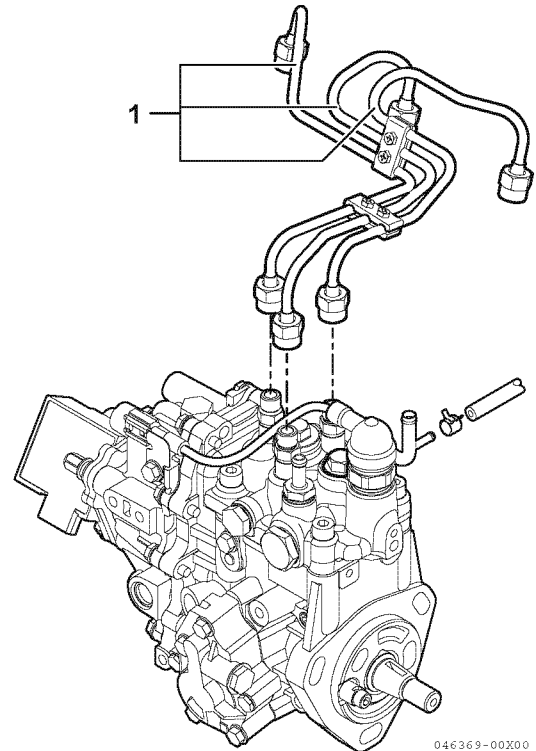

Figure 7-43
2. Remove the high-pressure fuel injection lines as an assembly (**Figure 7-43, (1)**).